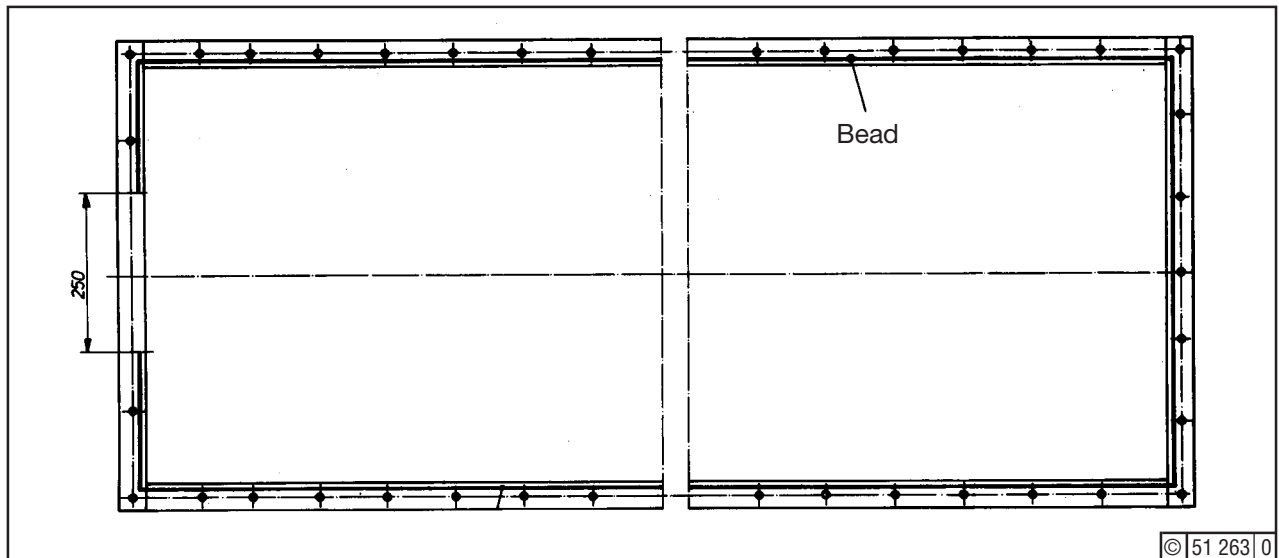

Fig. 5
-  Refit oil sump (if removed) after application of Deutz DW 48 compound as a continuous "bead" (Fig. 5) of 2 - 3 mm width (**not more**) on the joint face.